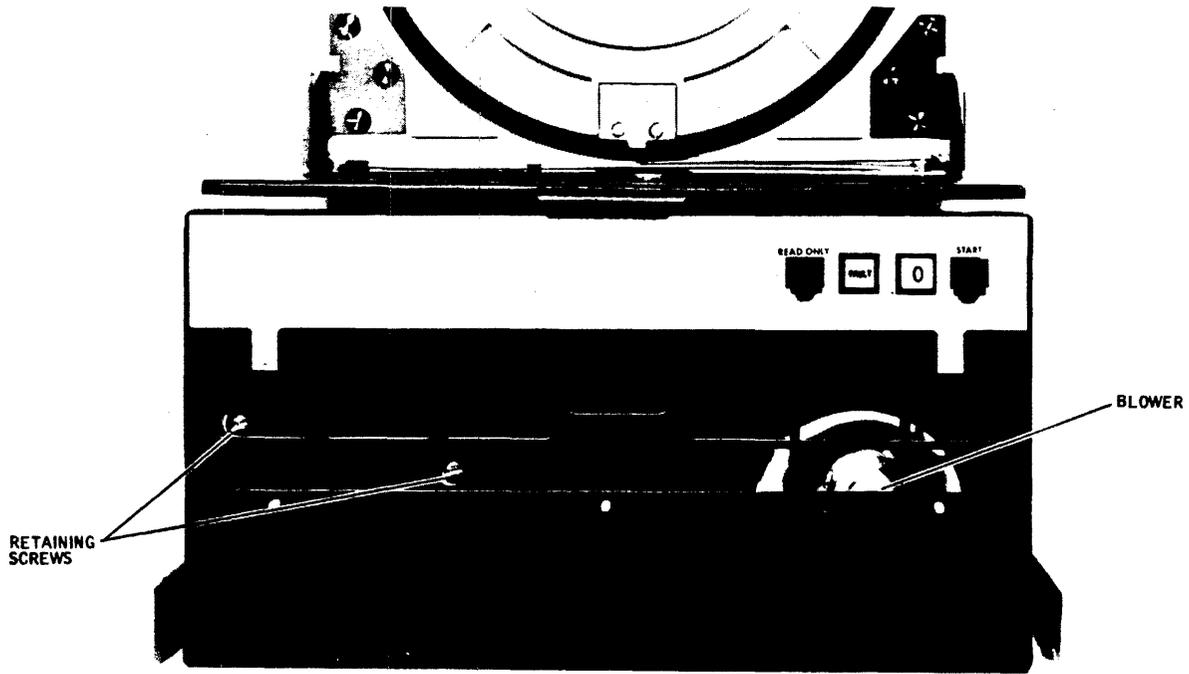

Figure 3-30. Air Shroud Filter Recess with Retaining Screws Shown
3. Remove the front air intake (foam) filter element for access to the two captive screws, on the left-hand side of the filter recess (Figure 3-30) that fasten the air shroud to the blower plenum. Loosen these two captive screws.